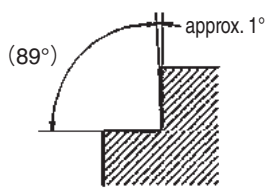

Fig.2
• MEF type's side edge is designed to have a slight clearance for the countersinking. Therefore, worked side wall is approx. 1° inclined against the vertical face. (Ref. to Fig.2)